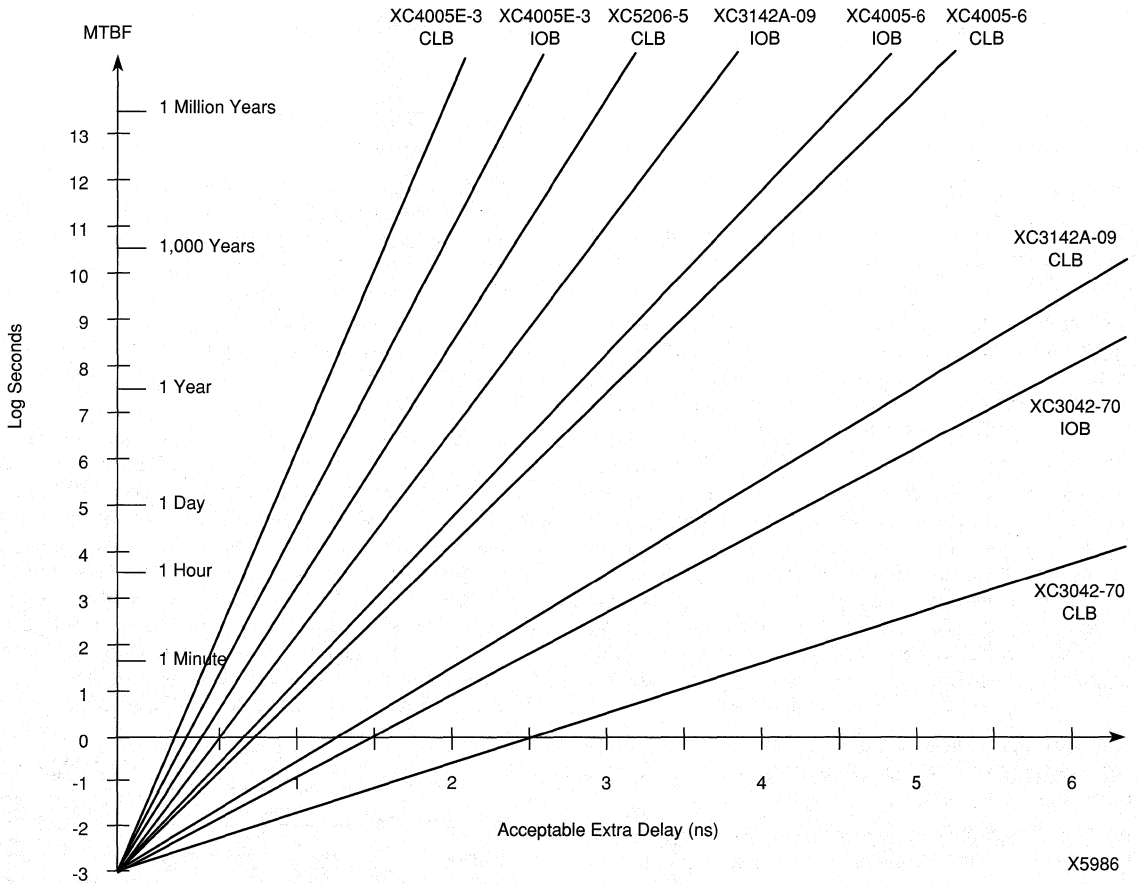

Figure 2: Mean Time Between Failure for various IOB and CLB flip-flop outputs when synchronizing a ~1 MHz asynchronous input with a 10 MHz clock.
Metastable measurement results are listed in Table 1, and are plotted in Figure 2. The results for XC4000E-3 (IOB and CLB) and for XC3100A-09 IOB flip-flops are outstanding, far superior to most metastable data published anywhere else. When granted 2 or 3 ns of extra settling delay, these devices come close to eliminating the problems caused by metastability, since their MTBF exceeds millions of years.
The Data Register (DR) is a serial shift register implemented in the IOBs of the FPGA device, (Figure 2). Potentially, each IOB can be configured as an independently controlled bidirectional pin. Therefore, three data register bits are provided per IOB: for input data, output data and 3-state control. In practice, many of these bits are redundant, but they are not removed from the scan chain.